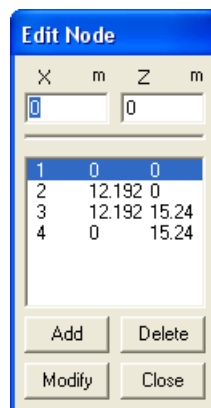

Figure 6-2 Drawing Area dialog box
- From the **Options** menu, choose **Drawing Area**. The dialog box of Figure 6-2 appears.